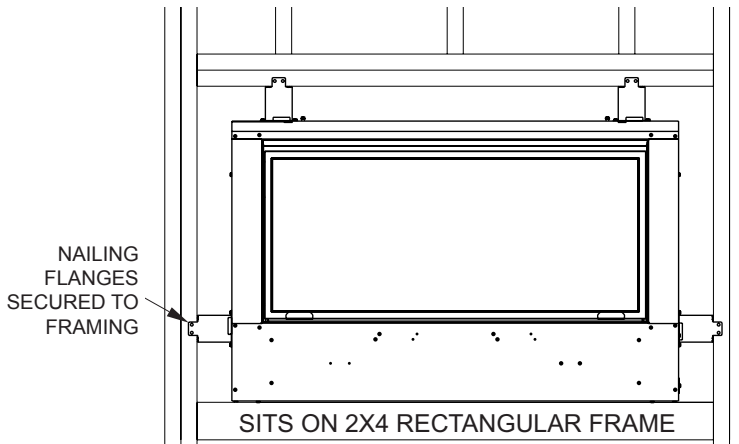

Figure 27
5. Secure fireplace to framing with nailing flanges. **See Figure 27.**